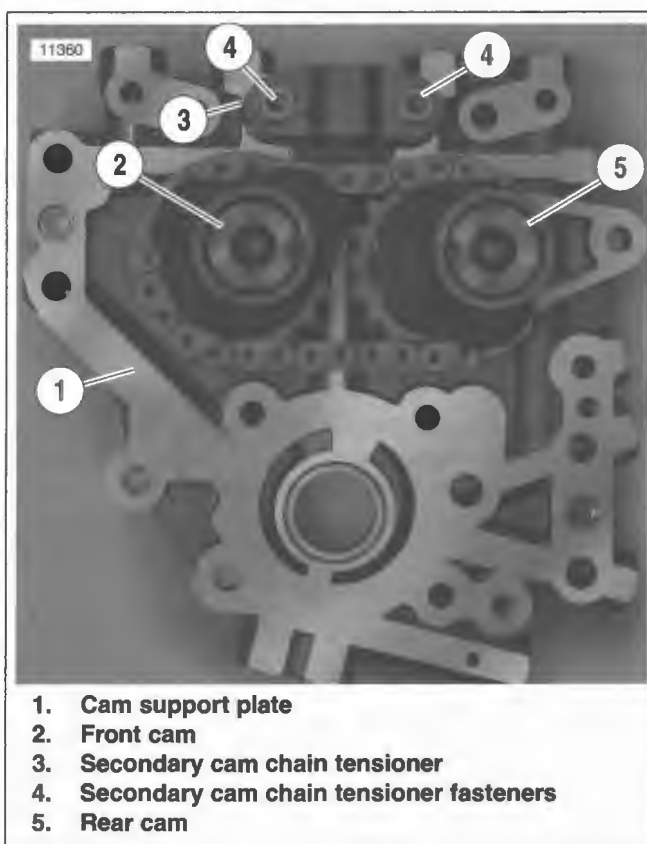

Figure 3-126. Camshafts
1. See Figure 3-126. Remove screws (4) and remove secondary cam chain tensioner (3).